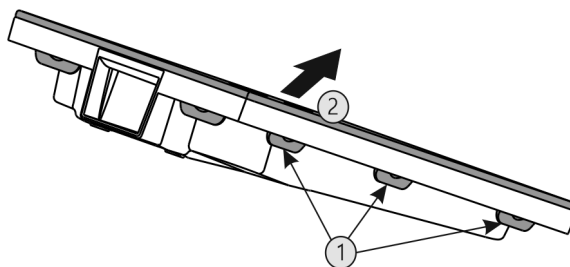

Fig. 32
- ▶ Press all lugs Fig. 32 (1) one after another and remove the cover Fig. 32 (2).